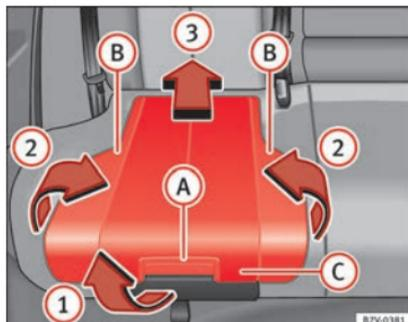

Fig. 94 Integrated child seats. lift up the cushion
- Pull the unlock lever **» Fig. 94 (A)** on the cushion in the direction of the arrow **» Fig. 94 (1)**.
- Fold both sides **» Fig. 94 (B)** up in the direction of the arrow **» Fig. 94 (2)**.
- Push the cushion **» Fig. 94 (C)** back in the direction of the arrow **» Fig. 94 (3)** until it engages.